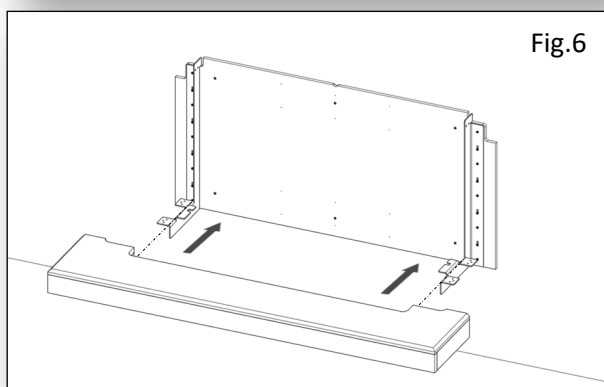

Fig.6
7. Place the Hearth (B) centrally on to the Wall Hung Brackets (G) and with the power cable routed in place down the side notch, slide the Hearth (B) back in to position. **See Fig.6.**